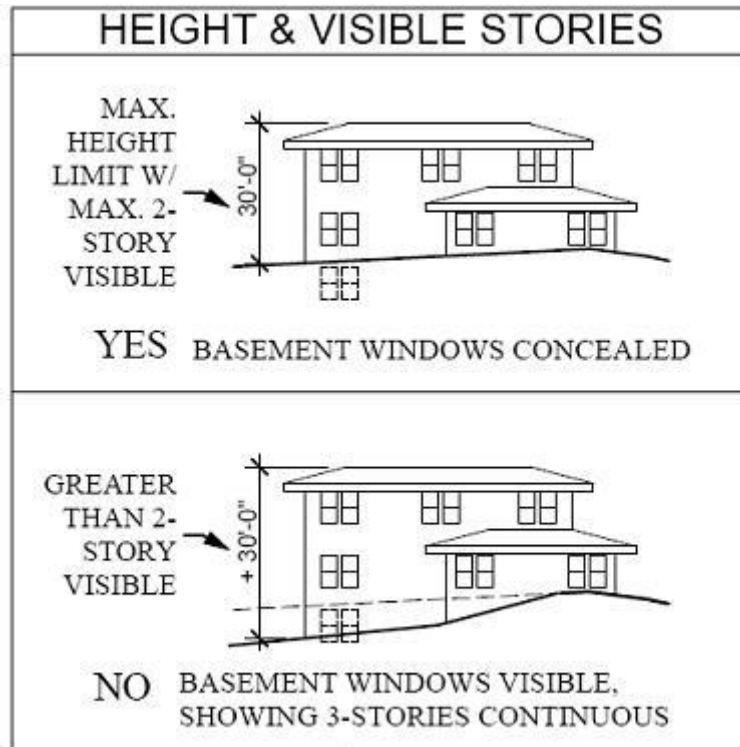

Fig. 4.3-1
Structure heights shall be limited to two (2) stories plus a roof on flat and gently sloping sites (see Figure 4.3-1). Structure heights for houses located on steeply sloping sites will be evaluated on an individual basis. Ridgelines stepped back substantially from the building face will be considered. In no case will continuous